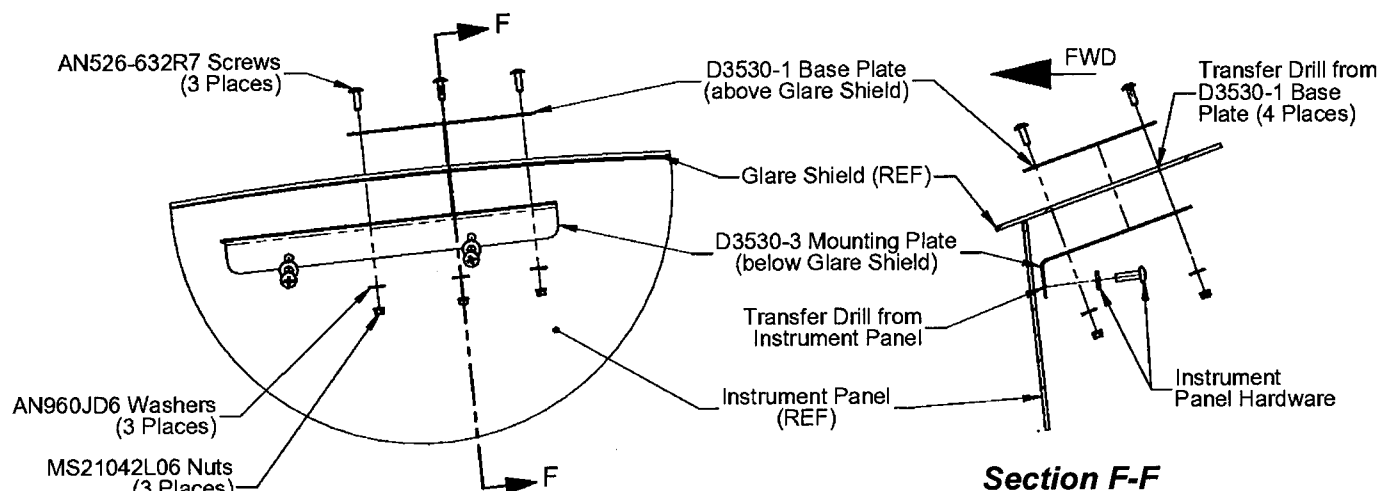

Figure 3.2.3 – D3530-1 Base Plate and D3530-3 Mounting Plate Installation
- 3.2.6 Install the D3530-1 Base Plate and D3530-3 Mounting Plate on the helicopter glare shield with qty(3) AN526-632R7 screws, qty(3) AN960JD6 washers and qty(3) MS21042L06 nuts, as shown in **Figure 3.2.3**. Replace any of the screws that were removed from the instrument panel in step 3.2.3 through the D3530-3 Mounting Plate. Torque the screws to 5-6 in-lbs (0.6-0.7 N-m).